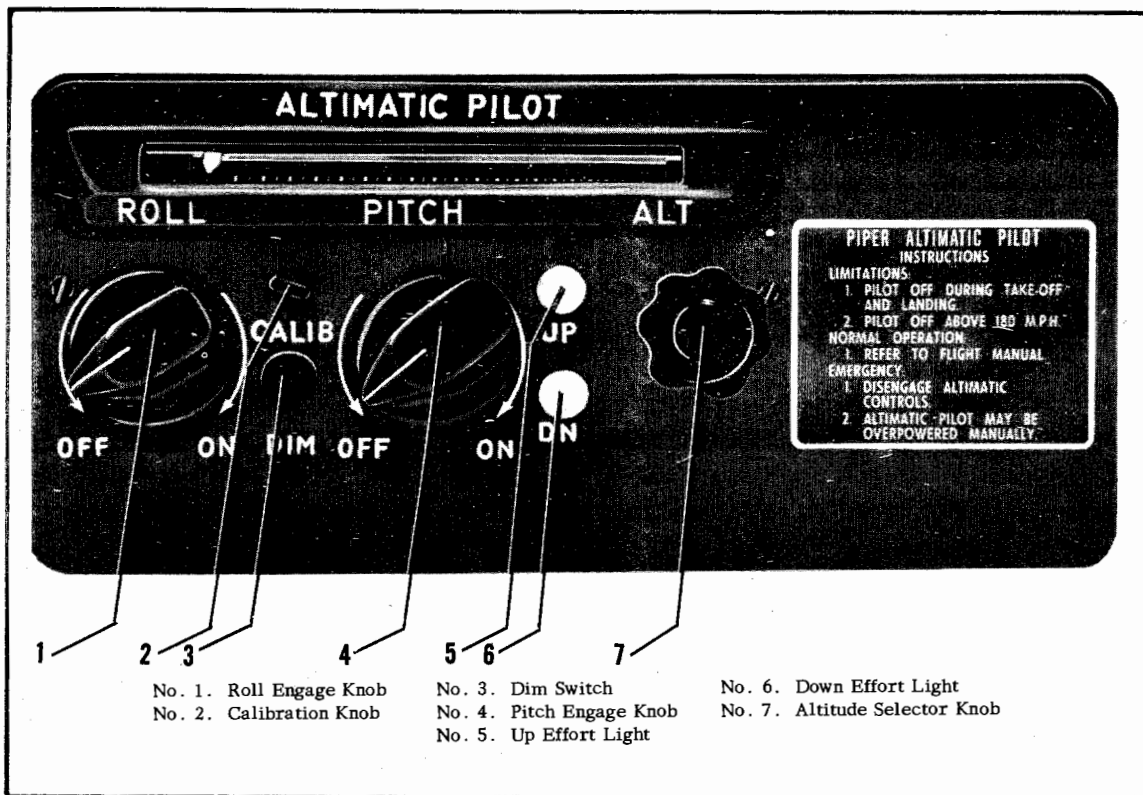

Figure 1-1. Altimatic Console
Both the Directional Gyro and the Horizon Gyro have internal modifications to include electronic sensing elements which are used to send signals to the amplifiers. The Console which contains the controls for the Altimatic is positioned in the lower left corner of the instrument panel on the Apache and Aztec, while on the Comanche it is located below the radio stack. This Console (See figure 1-1) serves several purposes: (1) It engages the Servo units to the controls by meshing a set of gears and (2) at the same time, operates an electric switch in the Servos, energizing the electronic components of the Altimatic.